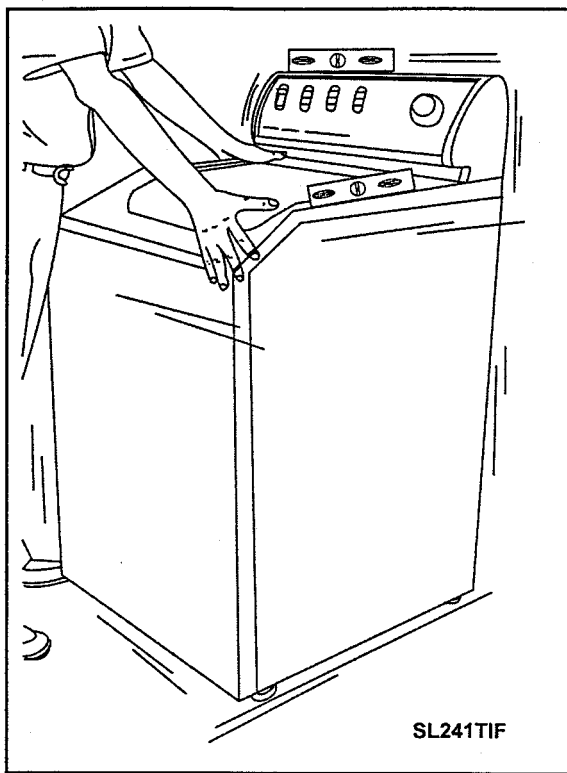

Figure 1-4
6. Tilt machine forward until rear of cabinet is approximately 4 inches off the floor. Lower the machine back to the floor on the rear feet. This operation causes the rear stabilizing feet to conform to the contour of the floor and seat them solidly. Push washer with hands on opposite corners to check stability (*Figure 1-4*).